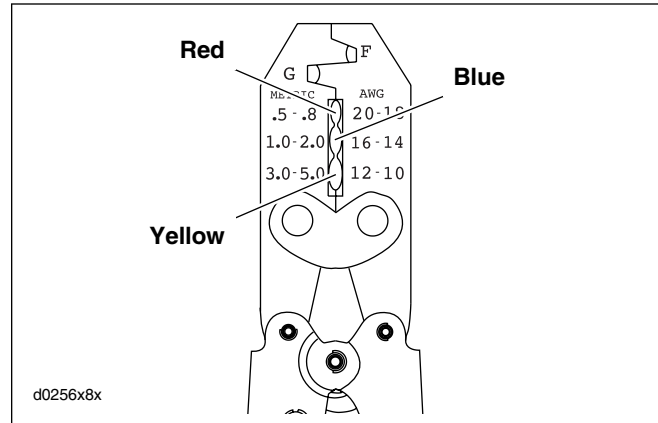

Figure B-18. Packard Crimp Tool (Part No. HD-38125-8)
4. See Figure B-18. Determine the correct dye or nest for the crimping operation. Match the color of the wire marked on the butt splice connector with the corresponding crimp cavity on the crimp tool.